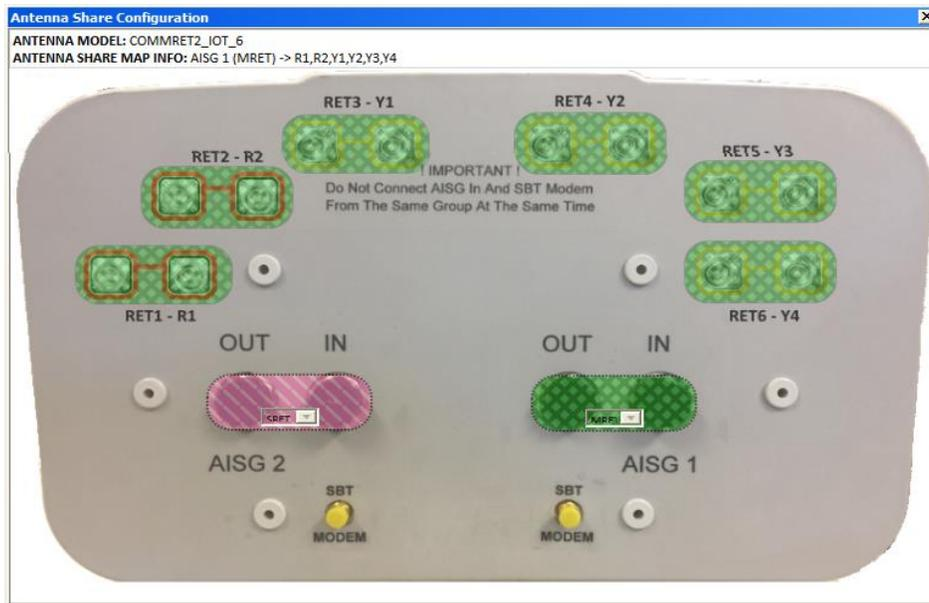

Figure 15-5. View Current Antenna Sharing Configuration
2. Using the selected antenna’s endcap image, the current antenna sharing configuration is displayed, as shown in the Figure 15-5. Note that all the RETs are assigned to AISG1 in this example.